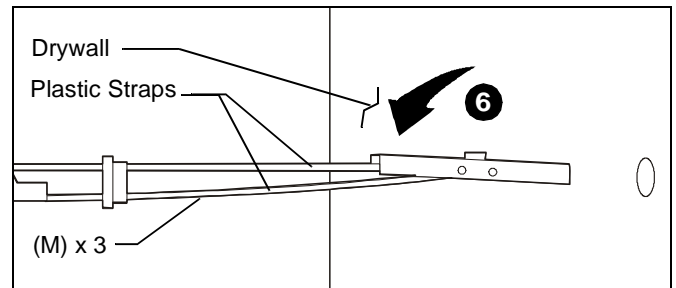

Figure 6
6. Hold metal channel on anchor (M) flat alongside plastic straps and slide channel through hole. (See Figure 6)